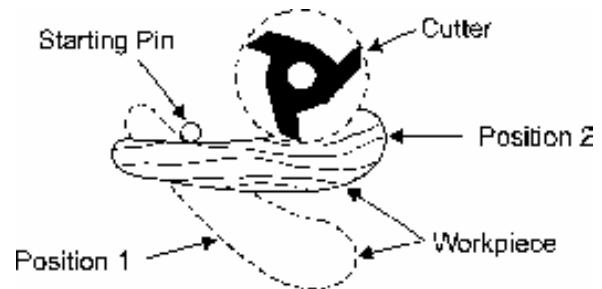

Figure 43
When the workpiece is not contoured all around, start the cut as shown in Figure 43. With this operation, the workpiece is positioned against the starter pin and the end swung into place to start the cut. When the cut has begun and the workpiece firmly against the collar, swing the stock away from the pin and proceed with cut.
- The work should be placed in the *position 1*, (Figure 43), using the starting pin as a support